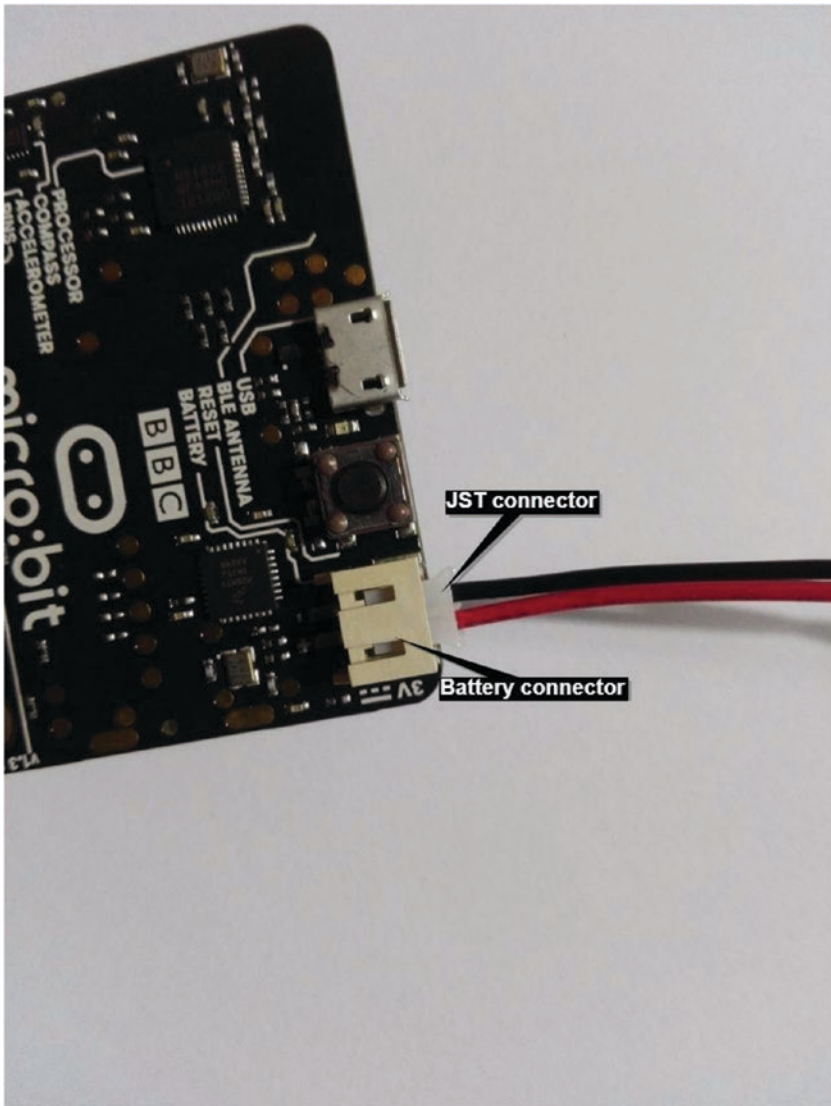

Figure 1-14. Connecting JST connector to battery connector
1. First, insert the two batteries into the battery case in the correct orientation. Then, connect the JST connector of the battery case to the battery connector of the micro:bit firmly without forcing it (see Figure 1-14). The JST connector will only connect one way with the battery connector.